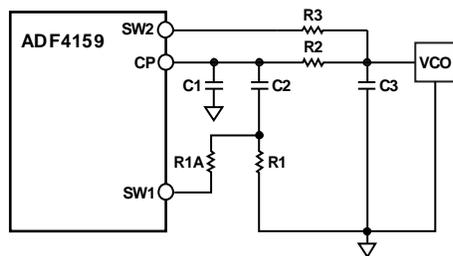

Figure 46. Fast-Lock Loop Filter Topology—Topology 2 Spur Mechanisms
- Connect an extra resistor (R1A) directly from SW1, as shown in Figure 46. The extra resistor must be chosen such that the parallel combination of an extra resistor and the damping resistor (R1) is reduced to $1/4$ of the original value of R1.